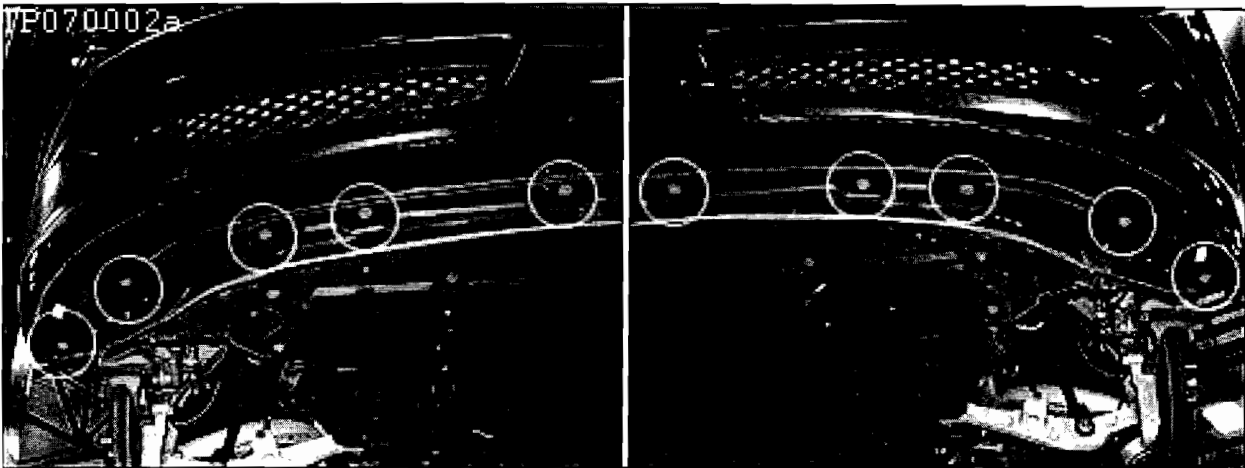

Figure 2
3. Remove the 10 bolts shown in Figure 2 from the underside of the front fascia.